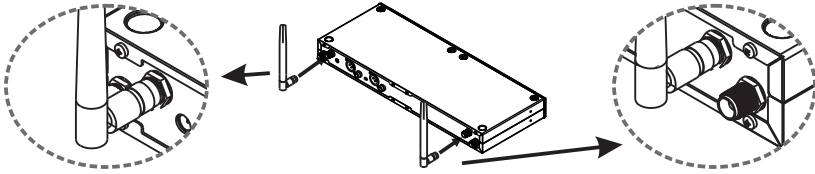

Fig. 4
(A) Install supplied 5.8 GHz receiver TNC antenna A & B at TNC Antenna Connector ❶, Fig. 4.